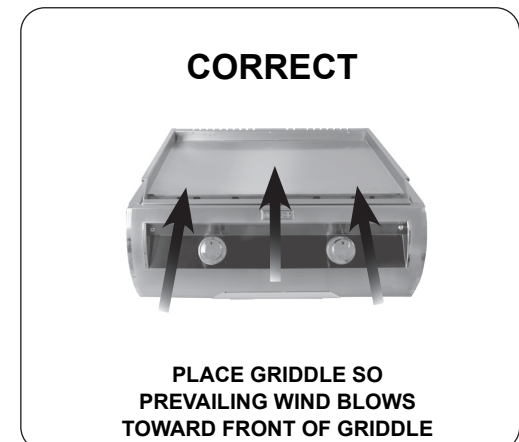

Fig. 20-3 Airflow direction - CORRECT
**CAUTION:** Wind blowing into or across the rear vent (Fig. 20-4) can cause poor performance and/or dangerous overheating. Install the griddle so that the prevailing wind blows toward the front of the griddle (Fig. 20-3).